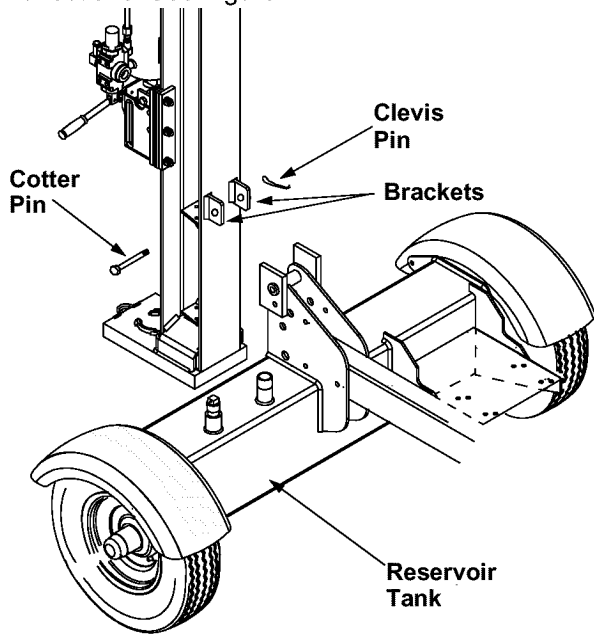

Figure 7
- Stand the wedge, beam, and cylinder assembly upright with cylinder toward the top. See Figure 7.
- Remove cotter pin and clevis pin from welded brackets on beam assembly and move the reservoir tank assembly in position against the beam. See Figure 7.
- Insert clevis pin just removed through brackets on beam and reservoir tank assembly. Secure with cotter pin by bending the ends of the pin in opposite directions. See Figure 7.